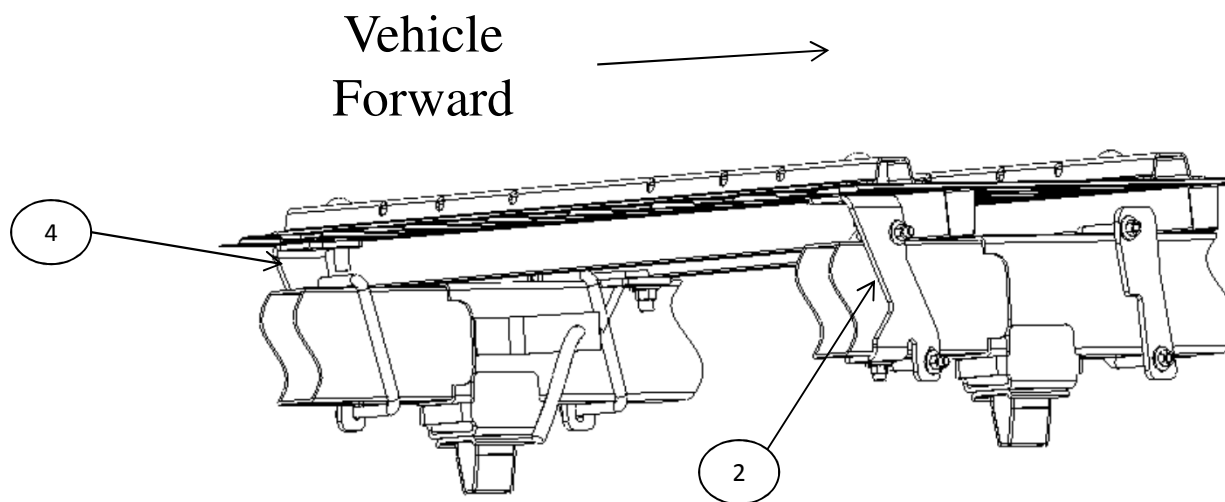
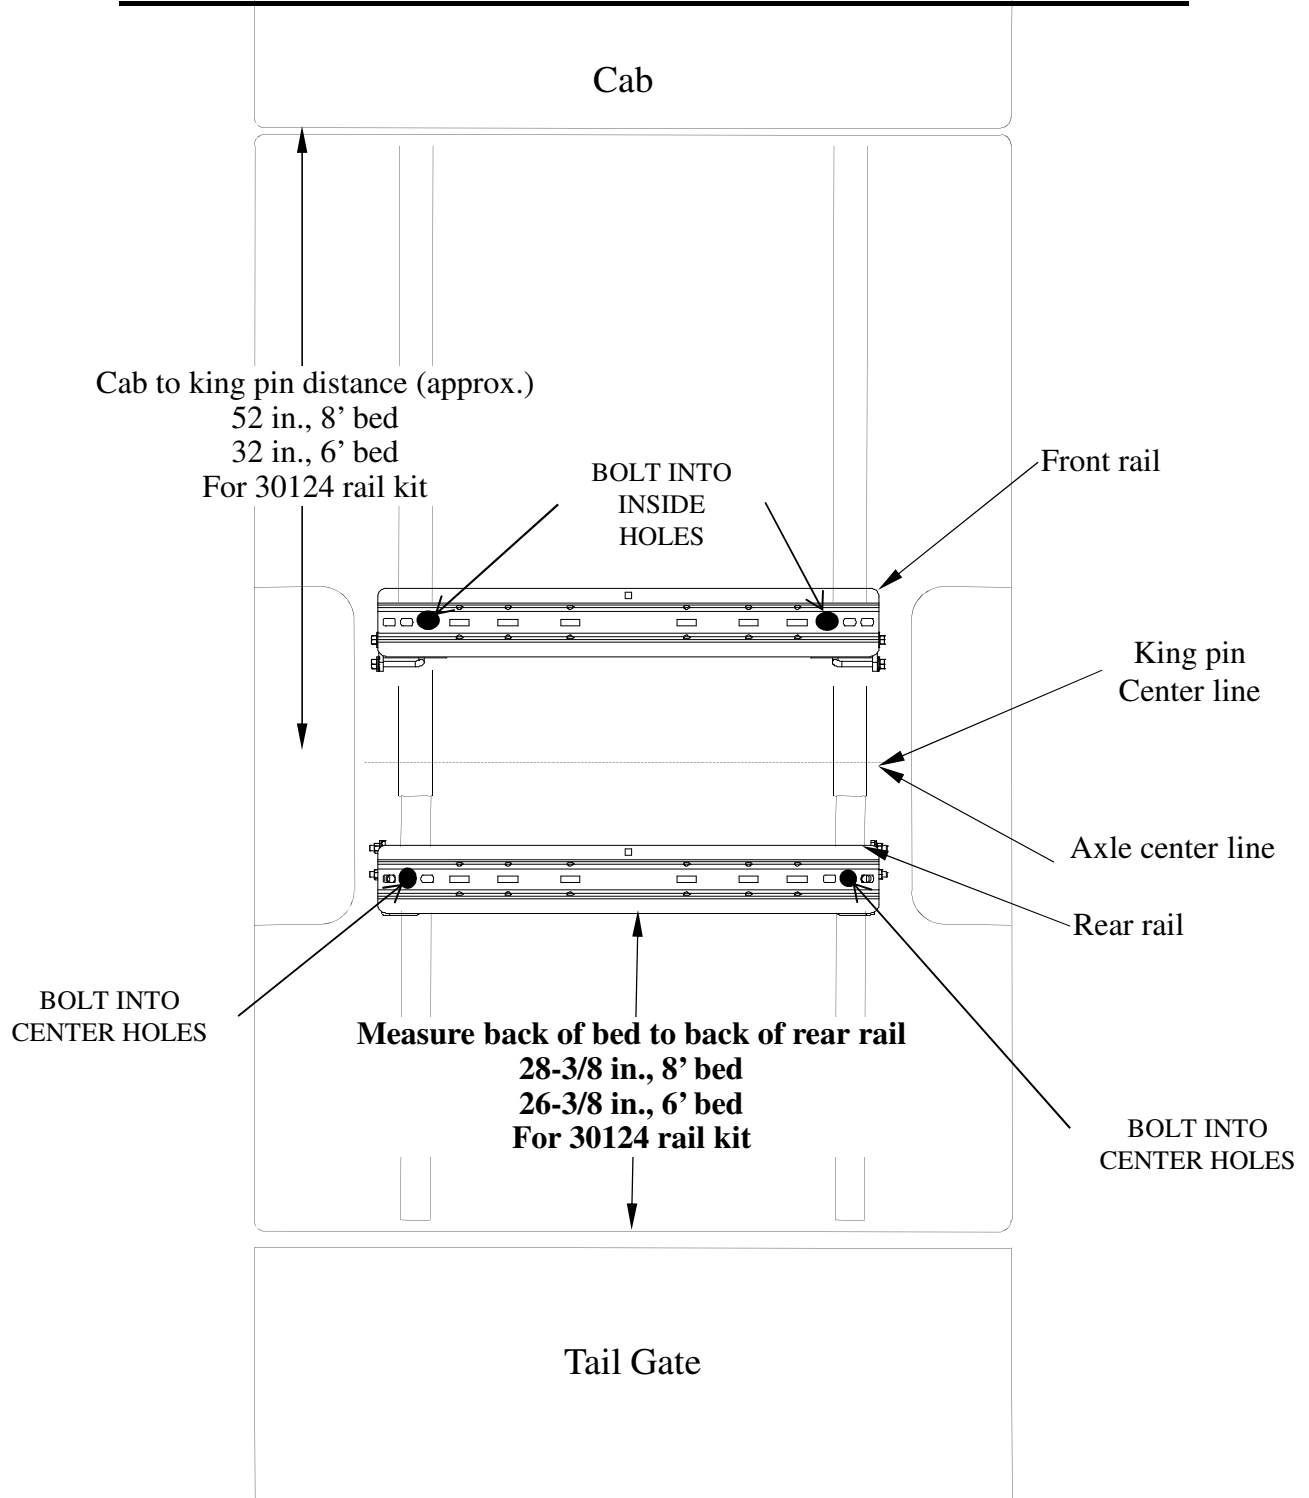

Figure 5A
Figure 6A
19. Install brackets (2) (4) in reverse positions. See Figure 5A.
20. Put rear left hand bracket (2) on the outside of the rear right frame rail and rear right hand bracket (4) on the outside of the rear left hand frame rail. See below.
21. Follow steps 1-18. For bed drilling locations see Figure 6A on page 10.